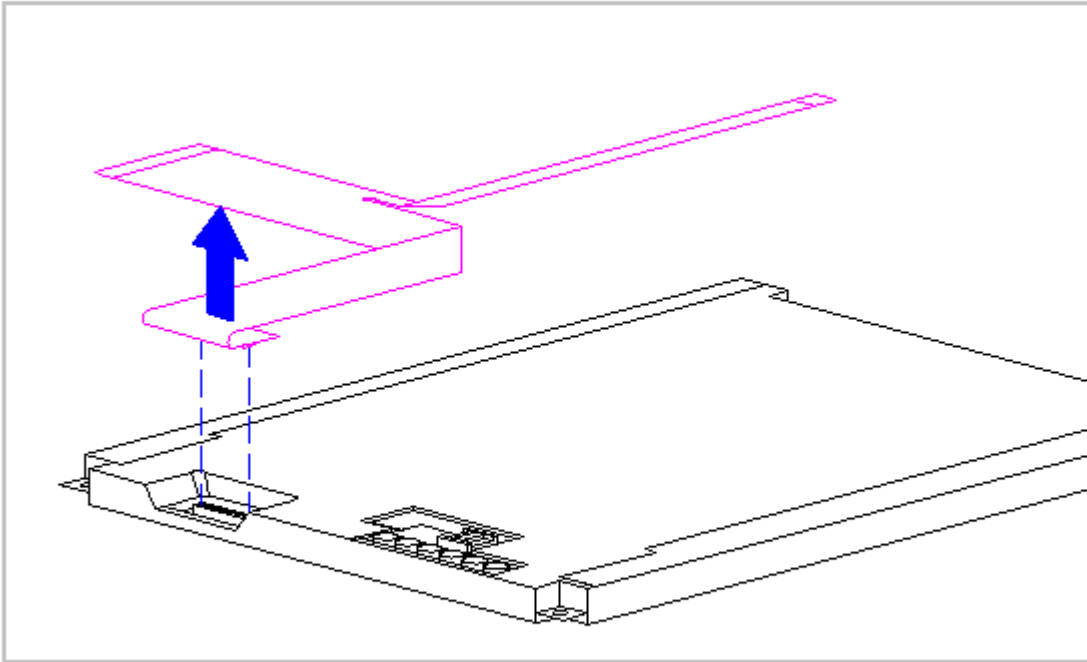

Figure 3-108. Removing the Display Cable from the CSTN (9.5 inch) Panel (Models 400 and 410)
16. Disconnect the display cable from the connector on the back of the CSTN (9.5 inch) panel (Figure 3-108).